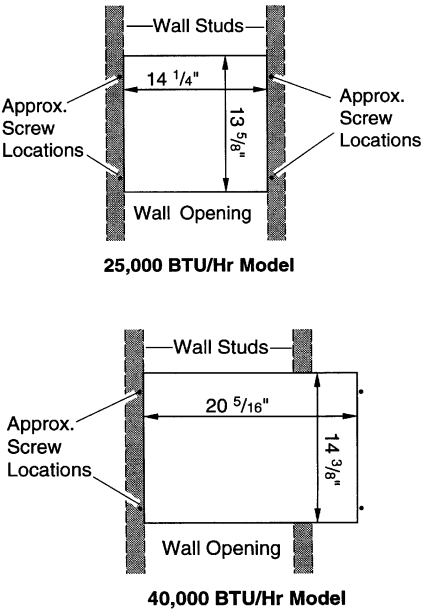

Figure 2 - Wall Openings and Screw Locations
3. **25,000 BTU/Hr Model:** Cut an opening in wall between the two studs. Make opening 14 1/4" wide by 13 5/8" high (see Figure 2). **IMPORTANT:** You must install furnace horizontally. Do not install furnace vertically.
4. **25,000 BTU/Hr Model:** Mark screw locations on wall (see Figure 2). Make sure screws will anchor into studs. Make sure screw locations match screw holes on cabinet flange.
40,000 BTU/Hr Model: Mark screw locations on wall (see Figure 2). Make sure screws on one side will anchor into studs. Screws on other side will only anchor in wall material. Make sure screw locations match screw holes on cabinet flange.